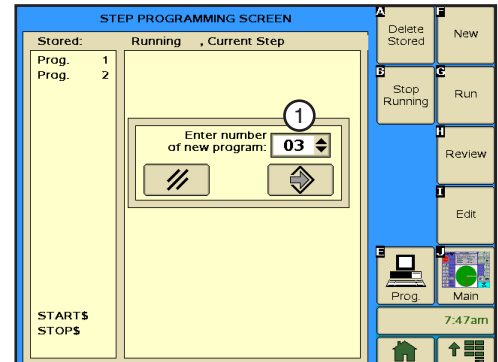

Figure 125-2 1. New Program Number Field
1. Push **Prog.** and **Step Prog.** to view the Step Program screen. Refer to Figure 125-2.